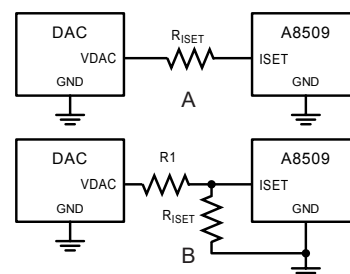

Figure 17. Typical application simplified diagram of voltage LED current control using a DAC to control LED current.
The A8509 can also be dimmed by using an external DAC or other voltage source applied either directly to the ground side of the RISET resistor or through an external resistor to the ISET pin (see figure 17). The ISET current can be varied in the range between 34  $\mu$ A and 130  $\mu$ A.
- For a single-resistor configuration (panel A of figure 17), the ISET current is controlled by the following formula:
- For a dual-resistor configuration (panel B of figure 17), the ISET current is controlled by the following formula: